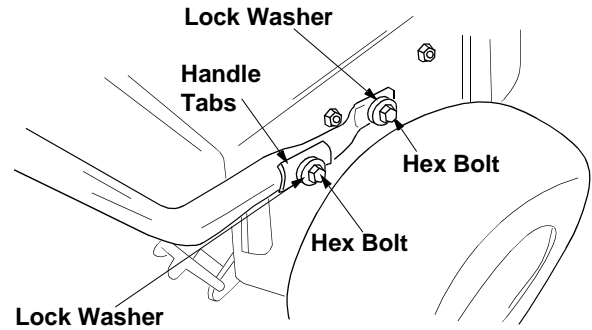

Figure 4
- Secure with 1 3/4" long hex bolts, lock washers and handle tabs. See Figure 4.